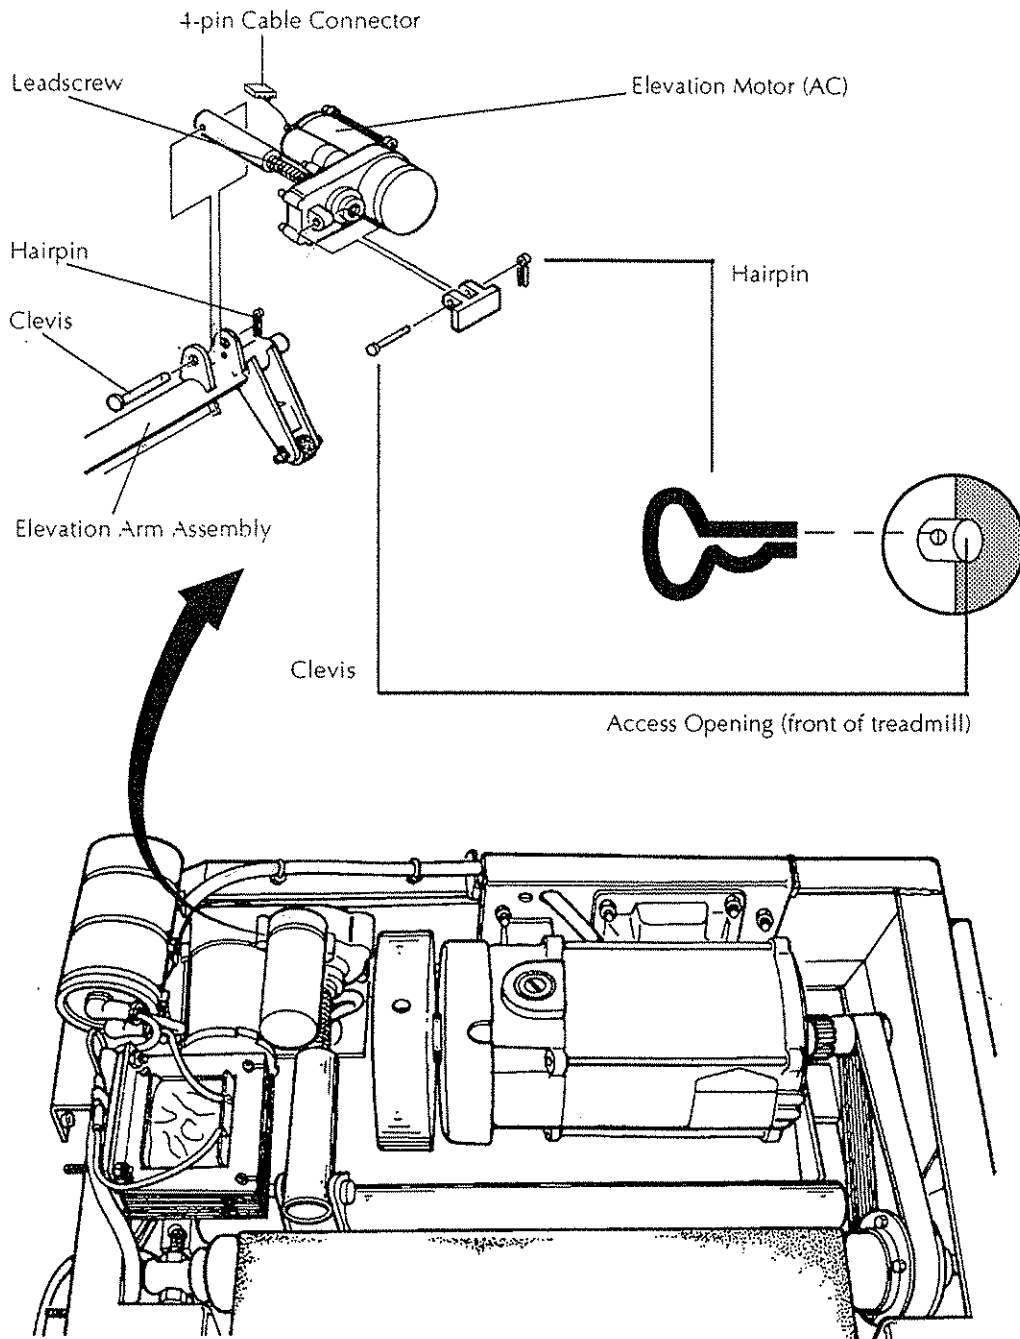

Figure 5-19: Replacing the Elevation Motor (AC)
2. Remove the hairpin and clevis securing the elevation motor to the treadmill frame. See Figure 5-19.
3. Remove the hairpin and clevis securing the leadscrew' tube nut (cylinder) to the elevation arm assembly. See Figure 5-19.
2. Remove the hairpin and clevis securing the leadscrew's tube nut (cylinder) to the elevation arm assembly. See Figure 5-19.